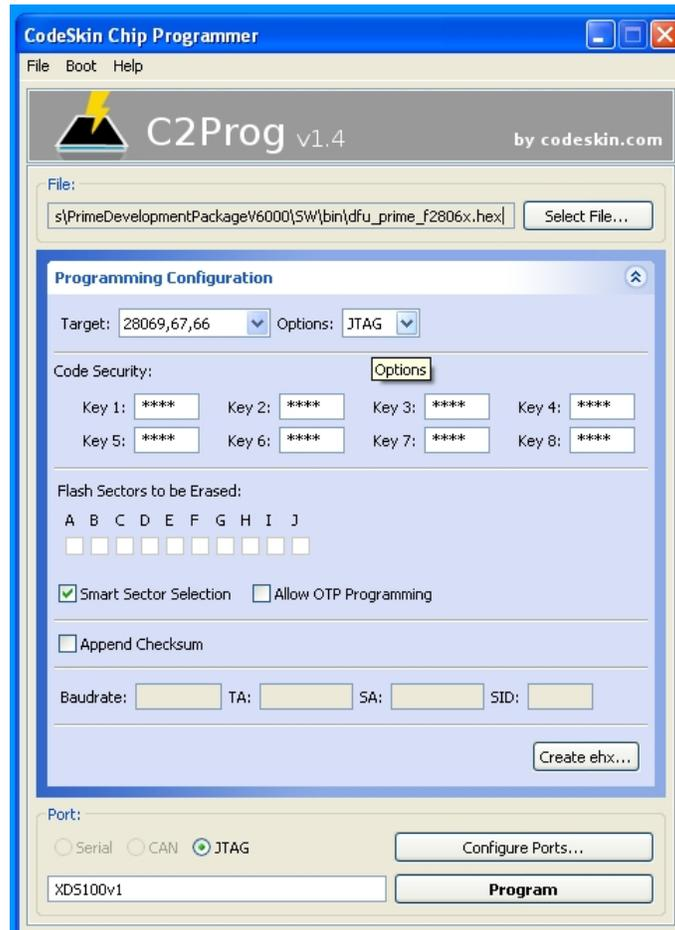

Figure 3. Selecting G3-PLC Binary to Be Flashed (via XDS100)
6. Program the *.hex (located in c:\Texas Instruments\<PackageName>\SW\bin) as shown in Figure 3. Select 28069,67,66 in the *Target* pull-down and *JTAG* in the *Options* pull-down.